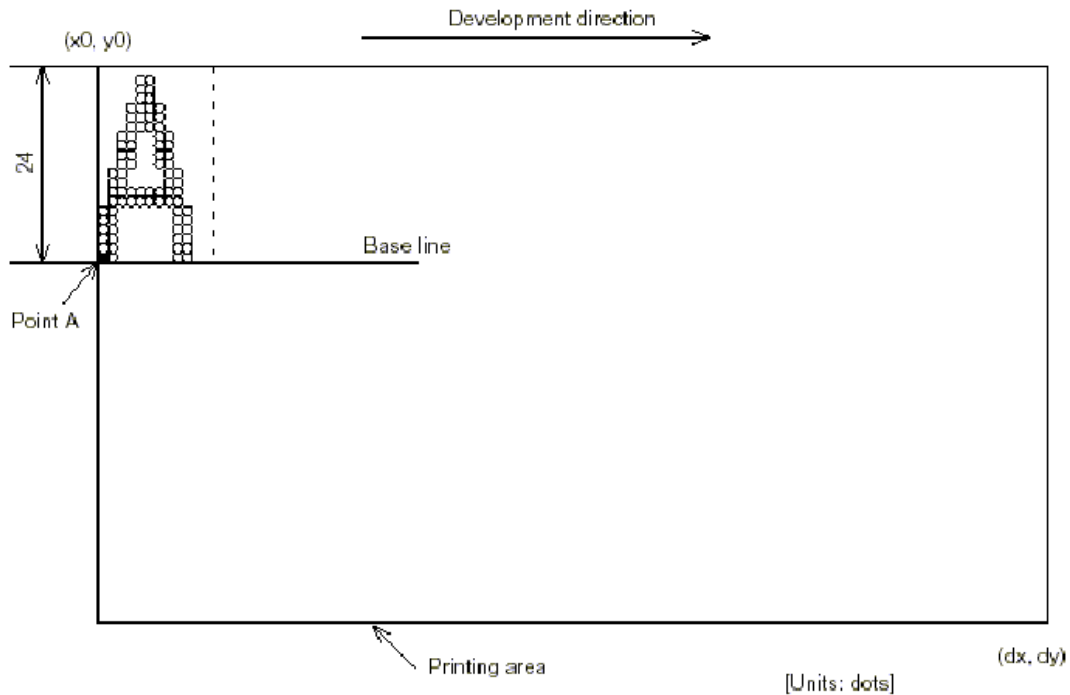
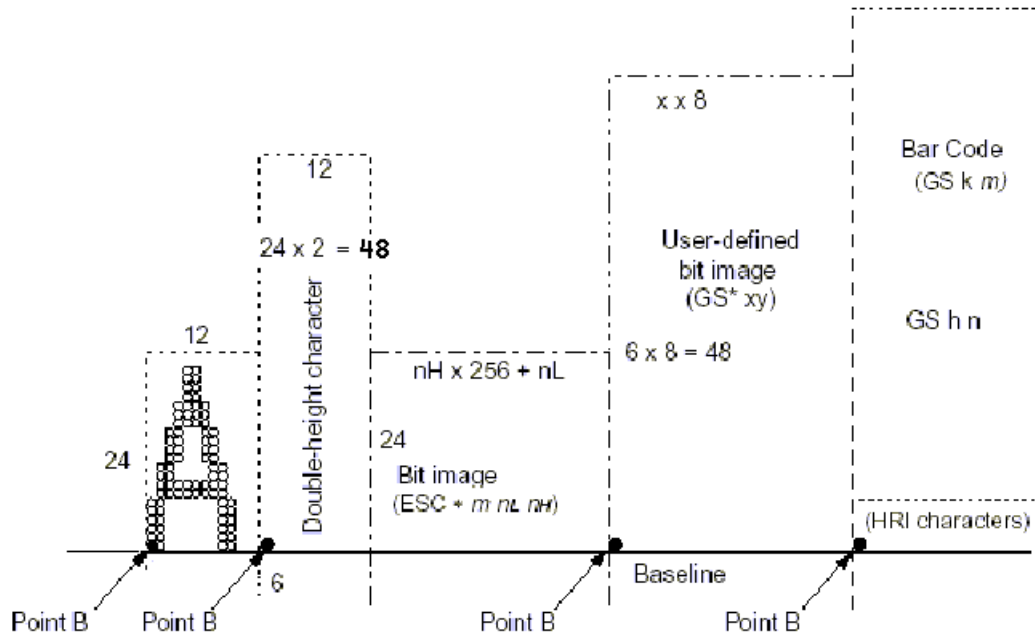

Figure B.2 Character Data Memory Position
Figure B.3 Print Data Memory Position
- 2) When the printer receives print data after **ESC T** sets the printable area and the printing direction, the print data is formatted within the printable area so that point A in Figure B.2 is at the beginning of the printable area as a default value. (When a character is printed, point A is the baseline.) Print data containing downloaded bit images or bar codes is formatted so that the bottom point of the left downside of the image data (point B in Figure B.3) is aligned with the baseline.